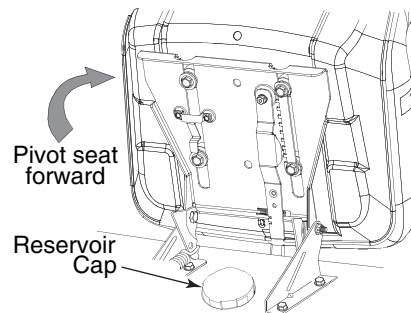

Figure 6-2
- Pivot the operator's seat forward and clean the reservoir cap and the area around the cap to prevent debris from contaminating the transmission oil. See Figure 6-2.